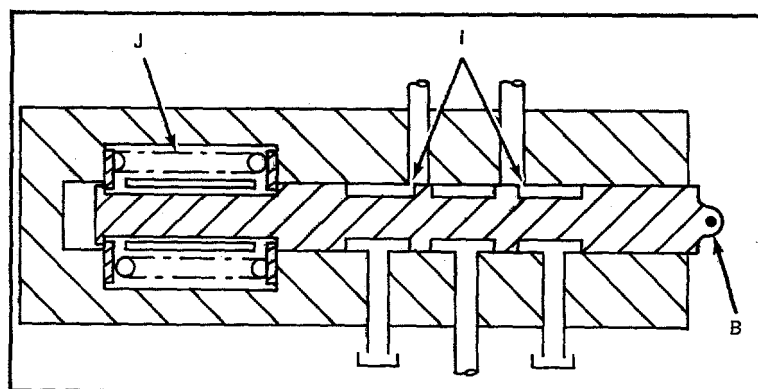

Figure 2. Displacement Control Valve in Neutral
When the control handle is released, the displacement control spool is returned to neutral by a spring (J). This allows oil from both servo cylinders to flow into the pump case through the small underlaps (I). (Refer to Fig. 2.) Both servo cylinders are thus exhausted and one of the servo springs mechanically forces the swashplate to neutral.